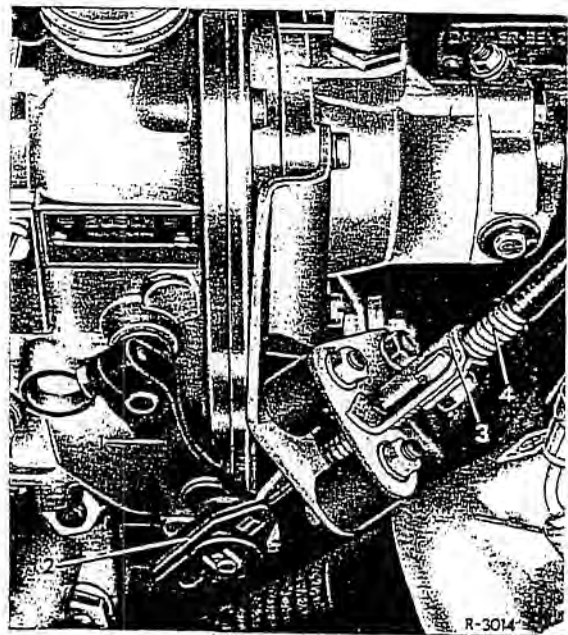

Fig. 07-12/4
2. Detach connecting rod for the auxiliary mechanical control as well as starting and stopping cable at the injection pump adjusting lever. Unscrew screw in the retaining angle (3) and remove coil spring with clamp (4) (Fig. 07-12/4).